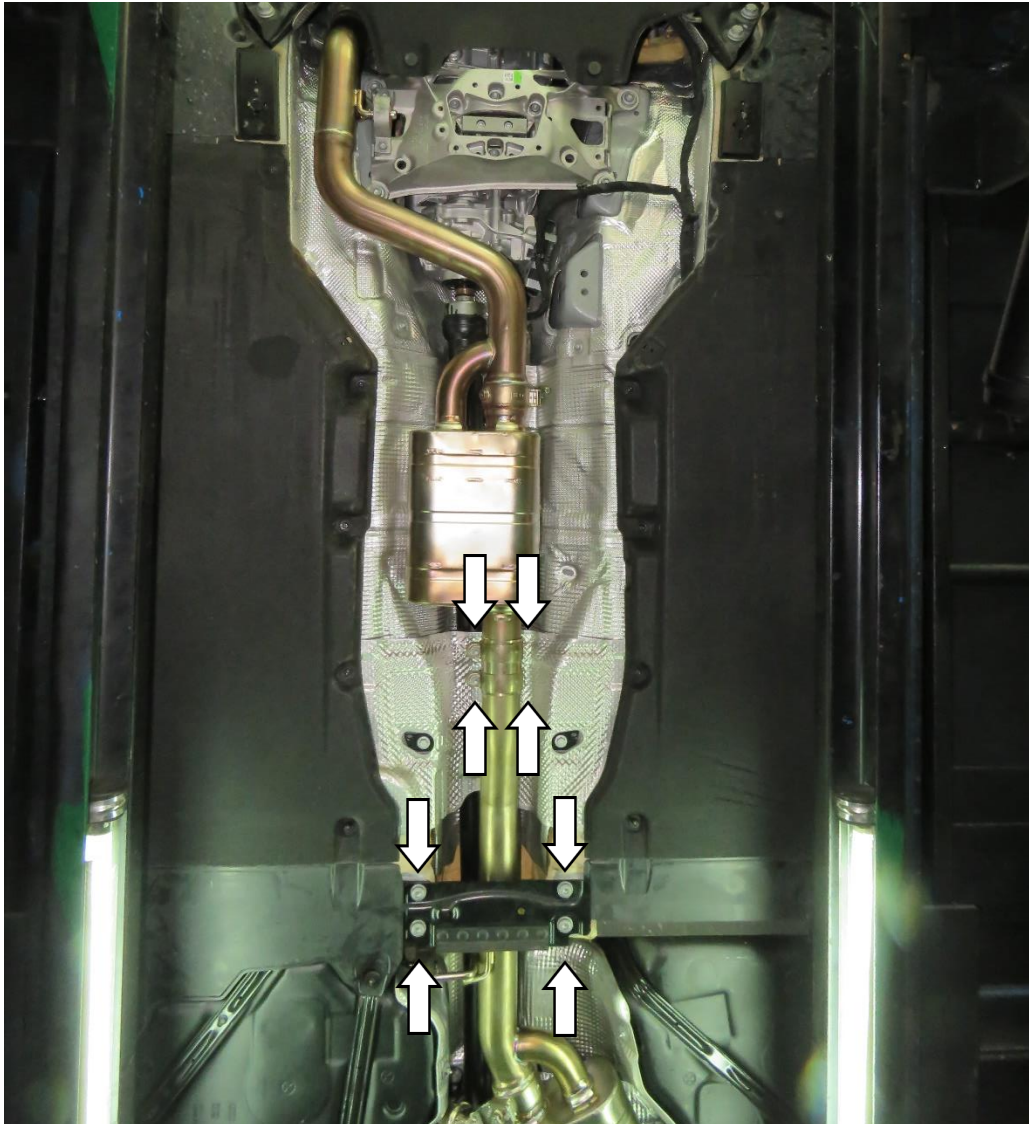

Figure 8
3. Install the mid pipe then install the original slide sleeve and lower bracket(Figure 8)